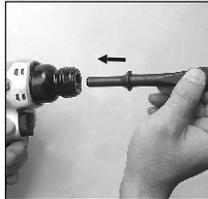

Figure 4
4. Insert a chisel (C) into the opening of cylinder (E). (See Figure 4)